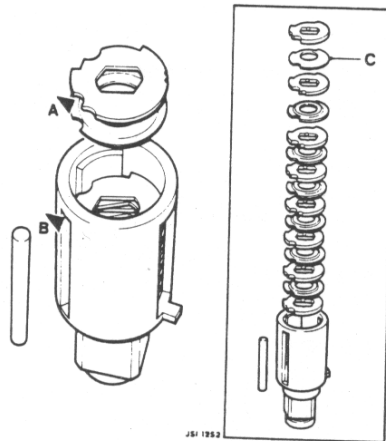

FIG. 5
- .Assemble discs and spacers into the new lock barrel supplied with the kit (Fig. 5). As each disc/spacer is installed, apply a small amount of grease (supplied in the kit) to the face of the discs/spacers.
- .The single spring spacer should be installed between the last two discs installed in the lock barrel, (fig. 5 C).
- .Align discs and spacers so that the steel roller fits into the lock barrel, (fig. 5 A and B).
- .Lubricate and install new shutter assembly into the lock barrel. Lubricate and install the steel roller into the lock barrel, (fig. 5 A). Install the lock barrel assembly into the lock housing.
.Using kit JLM 2042, arrange discs and spacers in key code order, (Fig. 5).